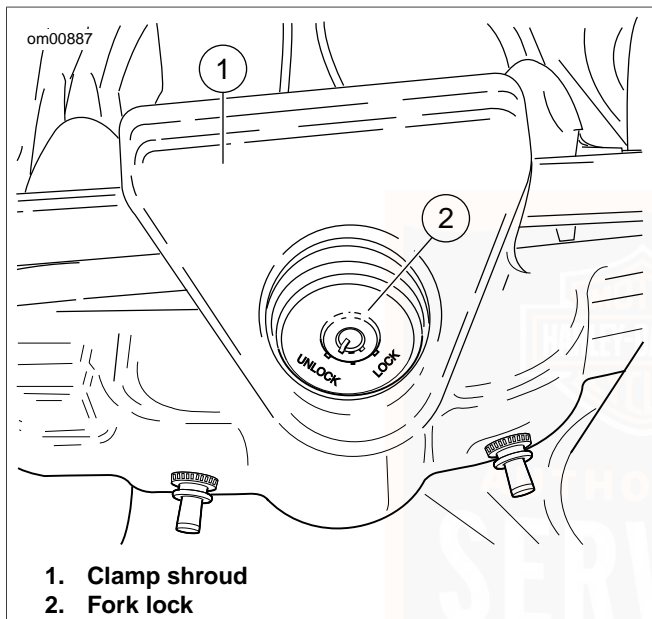

Figure 4. Fork Lock: FLHR/FLHRC
See Figure 4. On FLHR/FLHRC models, the fork lock is located at the top of the steering head, behind the headlamp nacelle and inset in the handlebar clamp shroud.
2. See Figure 4. Insert key and turn key counterclockwise to LOCK position. Remove key.